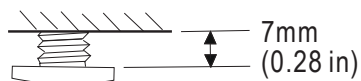

Fig.7
8. Screw the four Ø 5 mm x 30 mm tapping screws into the pilot holes. Leave screw heads about 7 mm (0.28 in) from the cabinet surface (figure 7).